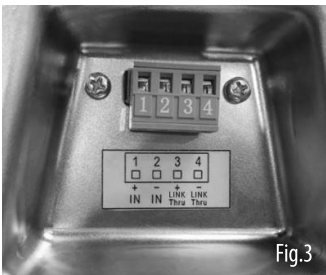

Fig.3
3. Feed the cable through and attach to the Euro-type connector (Fig.3).¹
4. For connection to an amplifier, use Pins 1 and 2 (Figs.3, 4, 5):